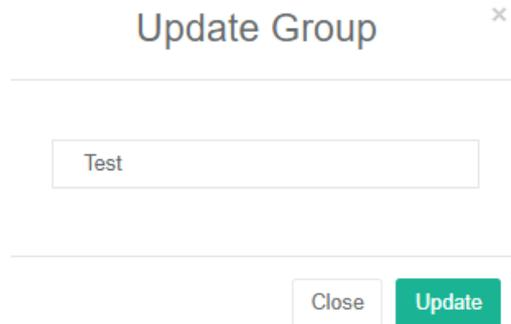

Figure 4-15
- 2) Click "✎" in group list, it will pop-up screen as shown in Figure 4-15;